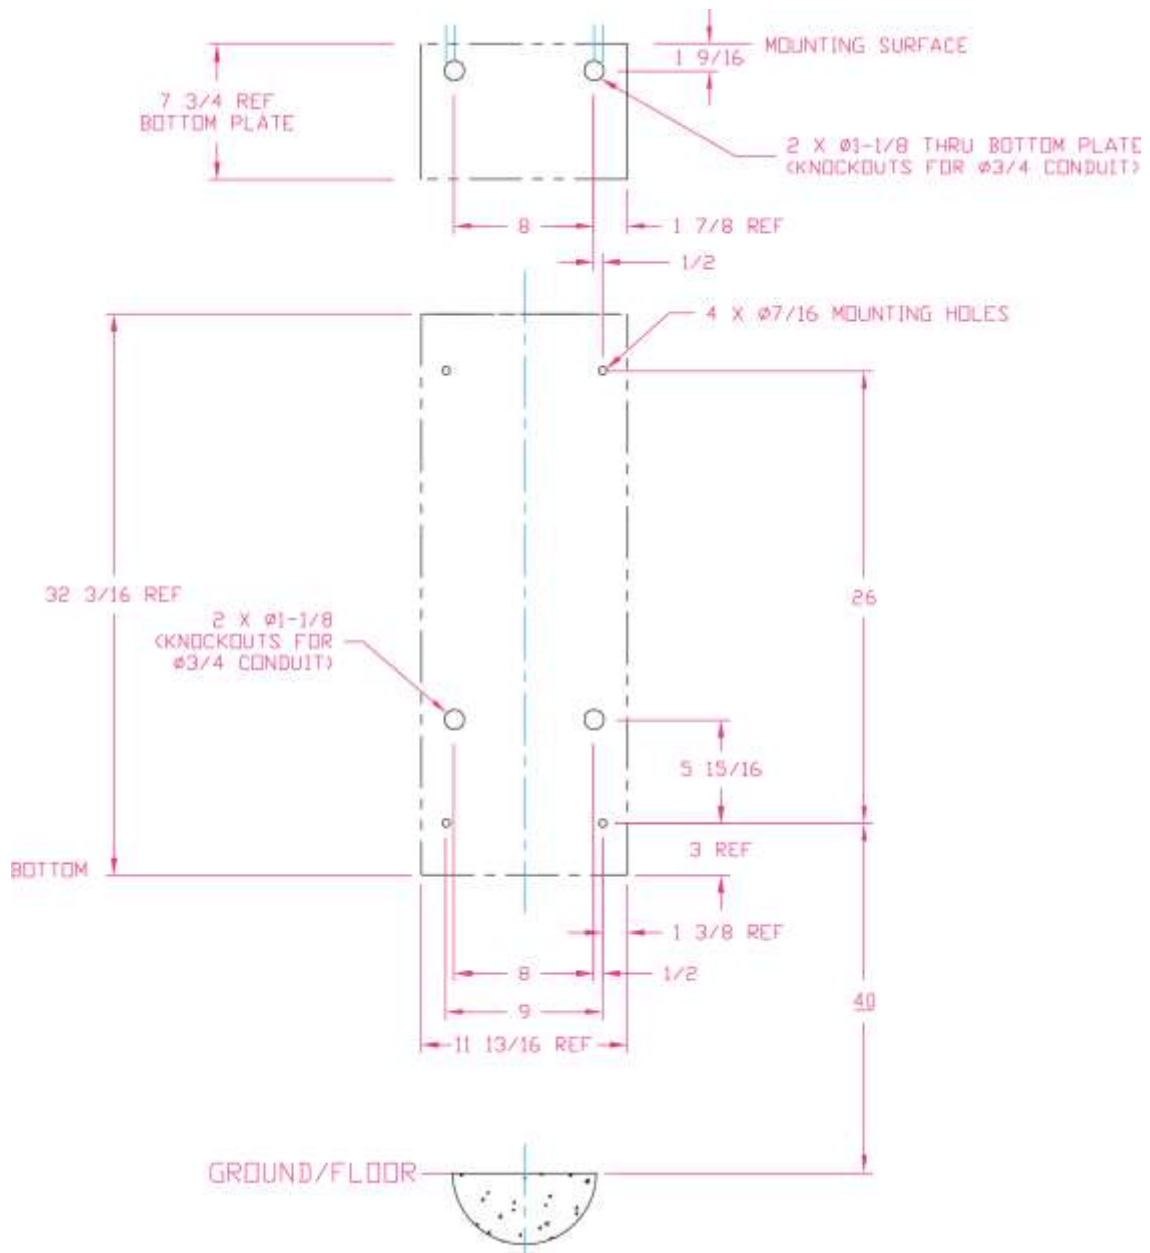

Figure 3
4.3.2.5 Install the housing. Four anchors of appropriate size and type should be used to fasten the housing to the wall (see Figure 3 on Page 14).